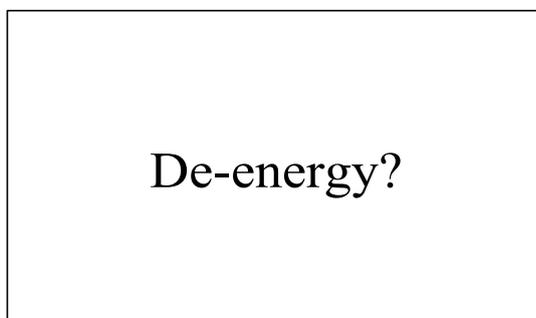

Figure 5-1 Inverter de-energy interface
(2) Referring to “6.3.6 System setup”, move the cursor from the main operation interface to “4 Setting”, press ENTER and go to submenu “6 OtherCmd”. Then move the cursor to “1 De-energy” and press ENTER, as shown in Figure 5-1. After pressing ENTER to confirm, the DC bus capacitor begins to discharge, as shown in Figure 5-2.